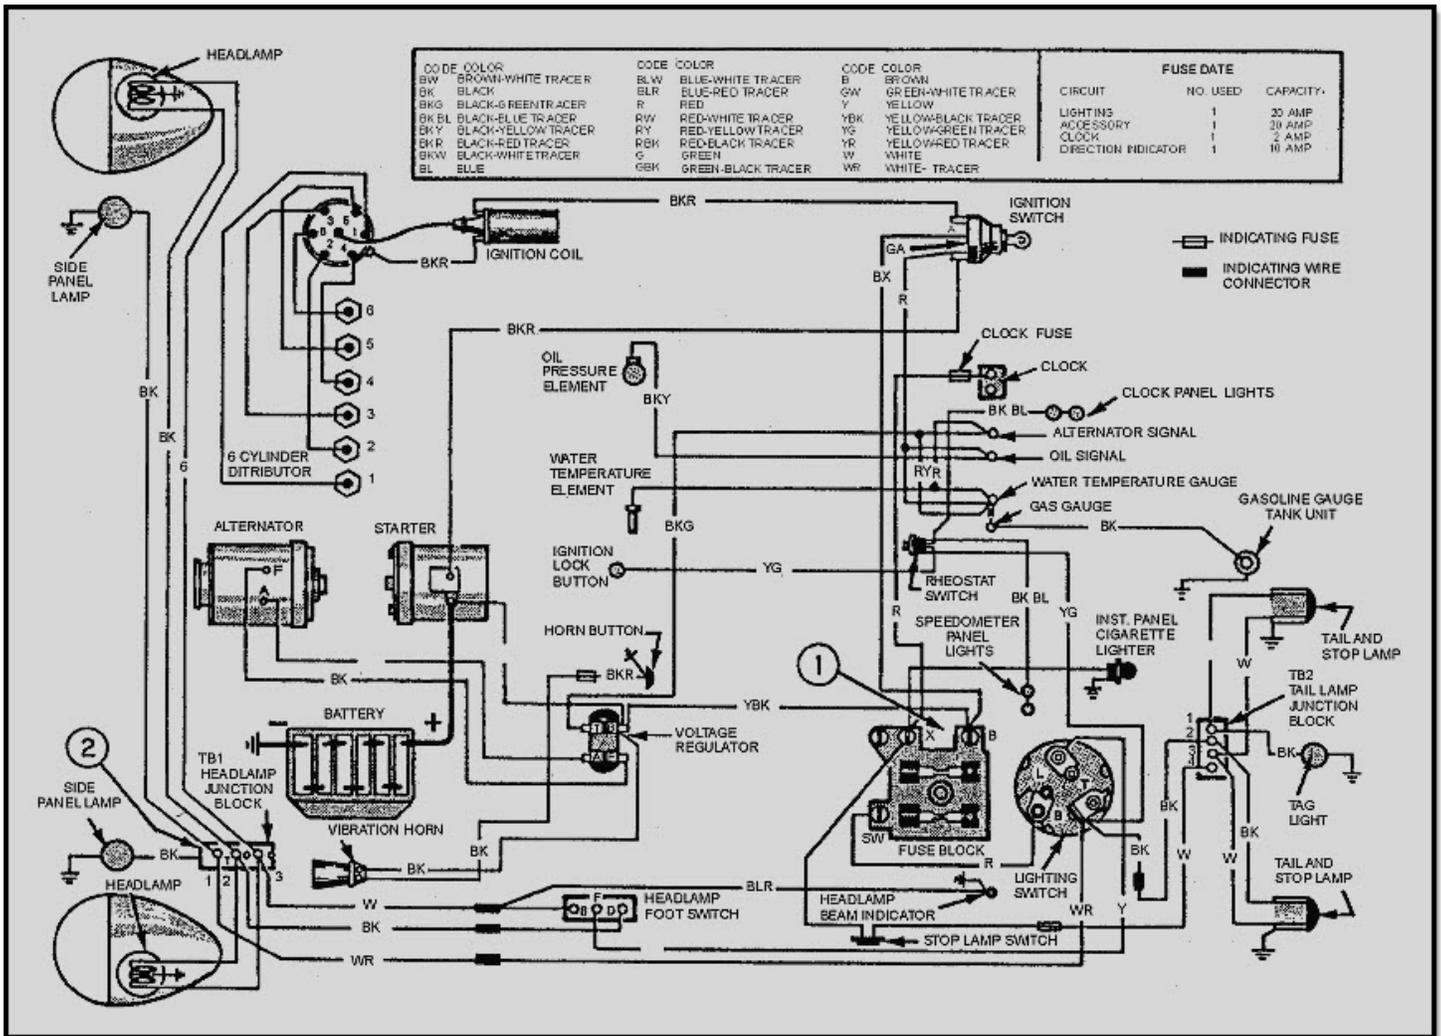

Figure 3-11 Wiring diagram
A wiring diagram is a detailed diagram of each circuit installation showing all of the wiring, connectors, terminal boards, and electrical or electronic components of the circuit. It also identifies the wires by wire numbers or color coding. Wiring diagrams are necessary to troubleshoot and repair electrical or electronic circuits. The wiring diagram for an automobile is shown in figure 3-11. It shows all the electrical components and that the interconnecting wiring is color coded.
On the schematic shown in figure 3-11, you can see that there are numerous connections to point (2). Point (2) on the wiring diagram is actually composed of three different functions: terminal 1 of TB 1 (the head lamp junction block), terminals 1 and 2 of TB2 (the tail lamp junction block), and the "T" terminal of the light switch; all correspond to point (2) on the schematic. The fault here is in the tag light, which normally receives its +12 volts from terminal 1 of TB2.